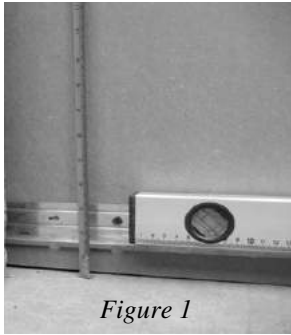

Figure 1
Starter Strip (SS)- Determine the height above ground for the bottom of the panels. Strike a level line 2 3/4" up from this point. Attach the top of the SS on this line. (Fig. 1)